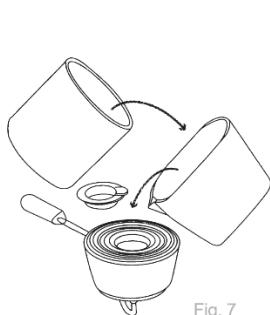

Fig. 7
3. Pour the paint into the Edger Head using the Easy Pour Jug (Fig .7).